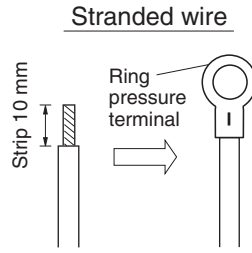
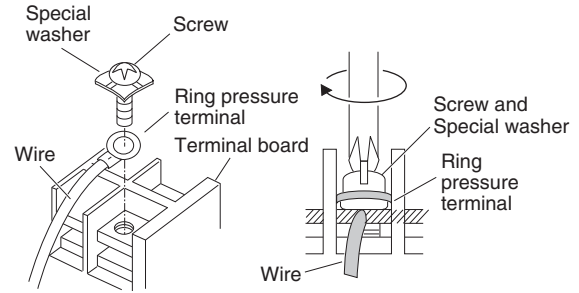

Fig. 4-7
Fig. 4-8
- (1) Cut the wire end with cutting pliers, then strip the insulation to expose the stranded wiring about 10 mm and tightly twist the wire ends. (Fig. 4-7)
- (2) Using a Phillips head screwdriver, remove the terminal screw(s) on the terminal board.
- (3) Using a ring connector fastener or pliers, securely clamp each stripped wire end with a ring pressure terminal.
- (4) Place the ring pressure terminal, and replace and tighten the removed terminal screw using a screwdriver. (Fig. 4-8)